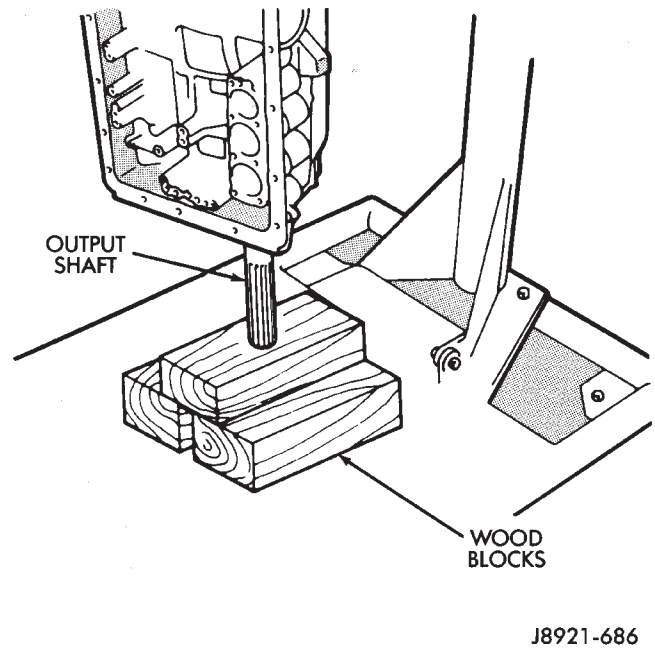

Fig. 142 Supporting Output Shaft
(34) Support output shaft with wood blocks (Fig. 142).